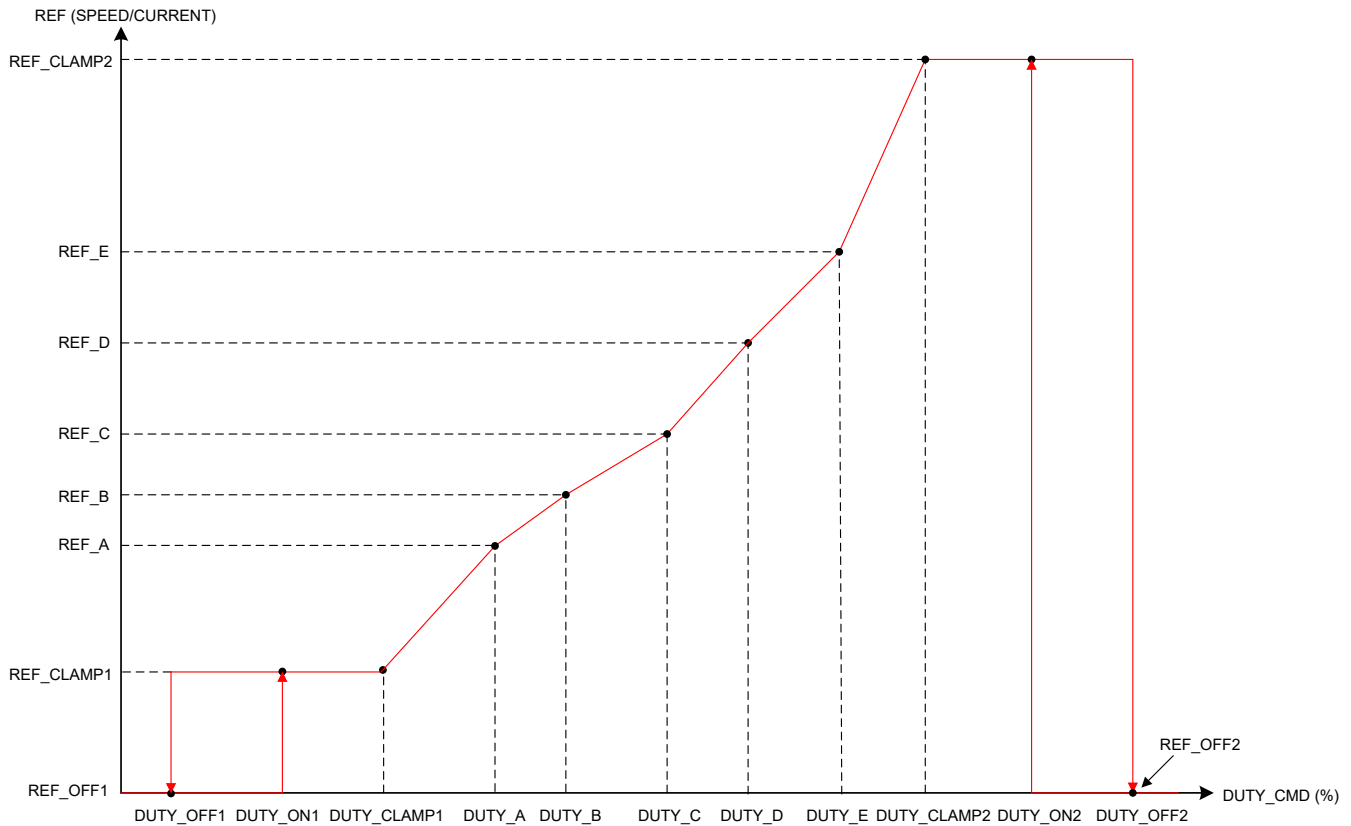
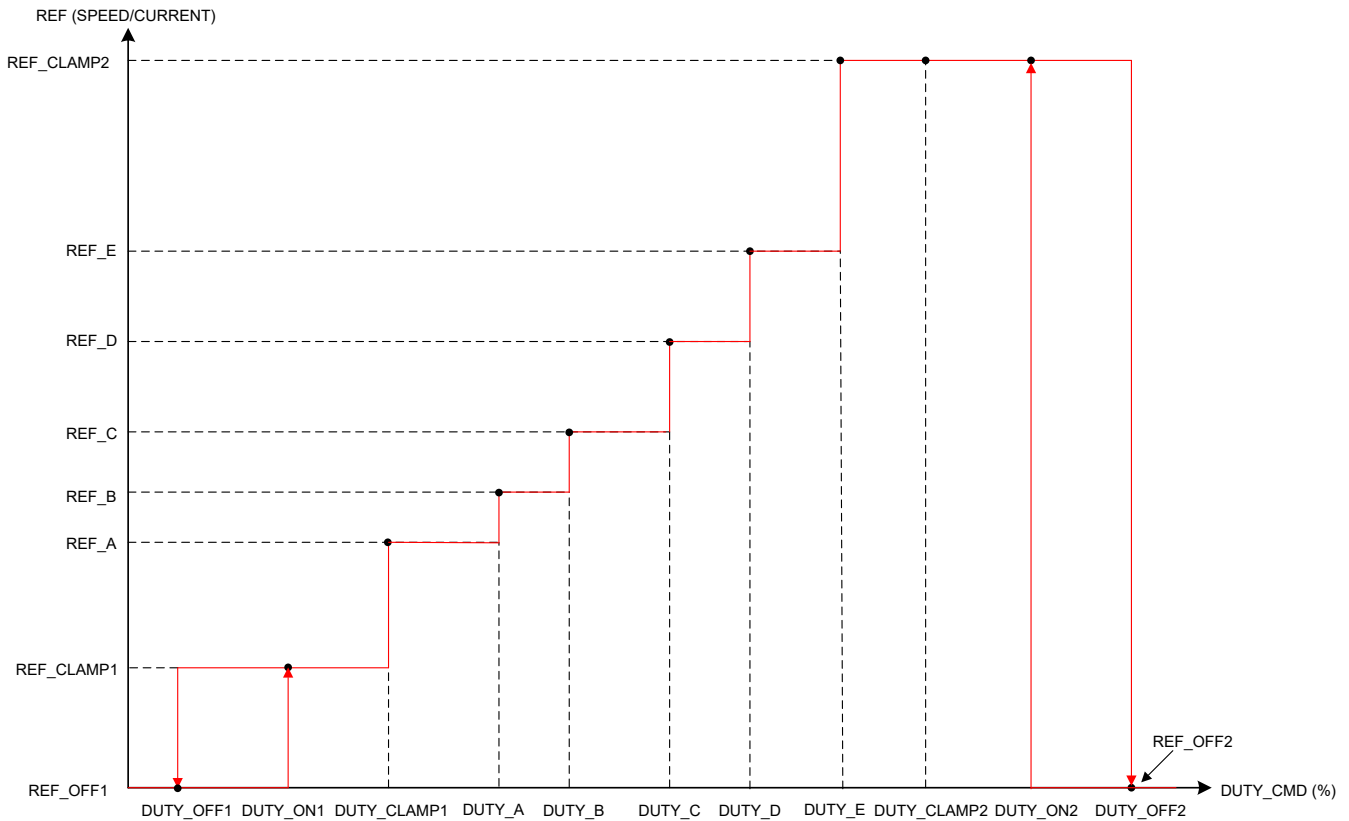
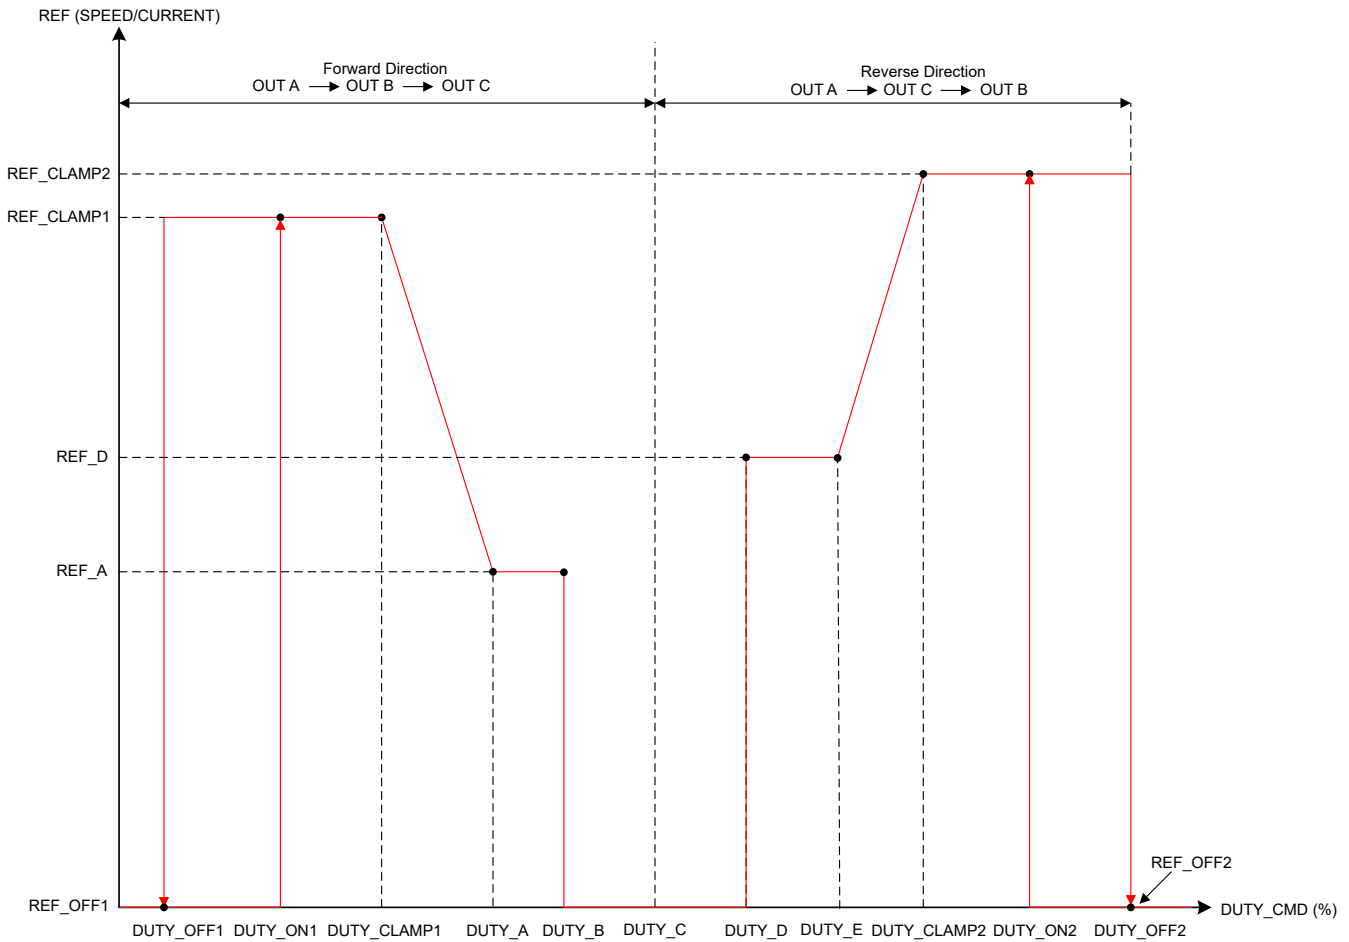

Figure 7-18. Linear Reference Profile
Figure 7-19. Staircase Reference Profile
Figure 7-20. Forward-Reverse Reference Profile
2. The reference value in Figure 7-18, Figure 7-19, Figure 7-20 is decided by control mode (SPEED_LOOP_DIS) as follows,
- Current control mode (SPEED_LOOP_DIS = 1b): CURRENT_REF (A) = (REF_x/255) x ILIMIT (A)
- DUTY_OFF1 and DUTY_ON1 configure a hysteresis between reference levels, REF_CLAMP1 and REF_OFF1 as shown in Figure 7-18.
- DUTY_A configures the duty command for reference REF_A. The reference changes from REF_CLAMP1 to REF_A linearly between DUTY_CLAMP1 and DUTY_A. DUTY_A to DUTY_E has to be in the same order as shown in Figure 7-18.
- DUTY_OFF2 and DUTY_ON2 configure a hysteresis between reference levels REF_CLAMP2 and REF_OFF2 as shown in Figure 7-18.
- DUTY_OFF1 and DUTY_ON1 configure a hysteresis between reference levels REF_CLAMP1 and REF_OFF1 as shown in Figure 7-19.
- DUTY_A configures the duty command for reference REF_A. There is a step change in reference from REF_CLAMP1 to REF_A at DUTY_CLAMP1. DUTY_A to DUTY_E has to be in the same order as shown in Figure 7-19.
- DUTY_OFF2 and DUTY_ON2 configure a hysteresis between reference levels REF_CLAMP2 and REF_OFF2 as shown in Figure 7-19.
- DUTY_OFF1 and DUTY_ON1 configures a hysteresis between reference levels REF_CLAMP1 and REF_OFF1 as shown in Figure 7-20.
- DUTY_A configures the duty command for reference REF_A. The reference changes linearly between DUTY_CLAMP1 and DUTY_A. DUTY_A to DUTY_E has to be in the same order as shown in Figure 7-20.
- DUTY_OFF2 and DUTY_ON2 configure a hysteresis between reference levels REF_CLAMP2 and REF_OFF2 as shown in Figure 7-20.